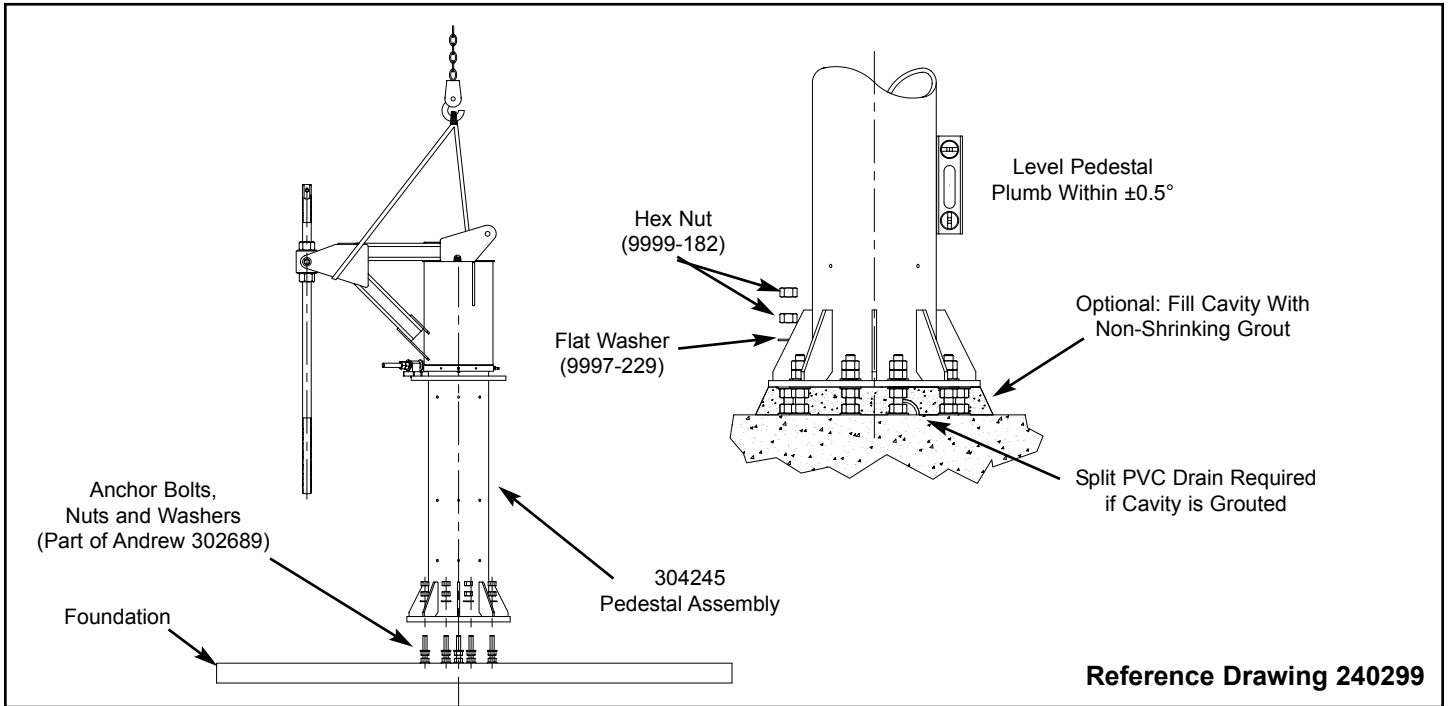

Figure 17 (Manual Mount)
Step 5 | Secure pedestal with washer and nuts as shown in Figure 17.